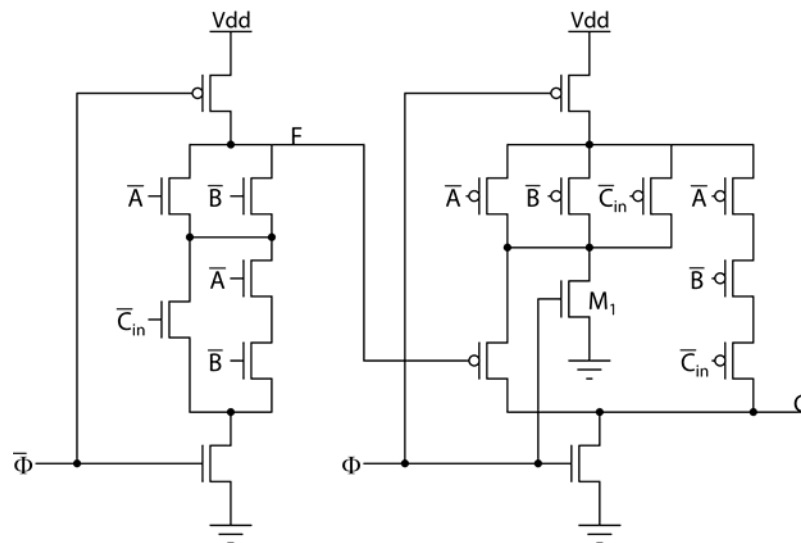

Figure 11.1. Datapath module bit-slice.
11.2) The circuit of Fig. 11.1 implements a 1-bit datapath function in dynamic (precharge/ evaluate) logic.
11.3) Consider the dynamic logic circuit of Fig. 11.1.